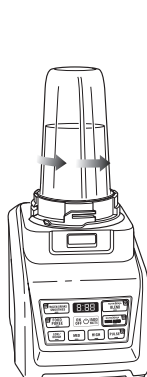
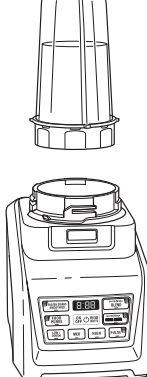

Fig. 5
Fig. 6
- 1 Holding the Dough Blade Assembly by the shaft, place it onto the gear shaft inside the bowl. Ensure that the blade assembly fits around the gear shaft and that it is standing straight. (Fig. 5)
- 8 Select the speed that best suits your needs. For best results, hold the Auto-iQ™ Pulse button down until you have reached your desired consistency. (Fig. 5)
- 10 To remove the lid, pull the lid handle up to a 90° angle and lift the lid off. (Fig. 6)
- 7 Once you have reached your desired consistency, turn the power button off. Turn the Nutri Ninja® cup counter-clockwise and pull straight up to remove. (Fig. 5, Fig. 6)